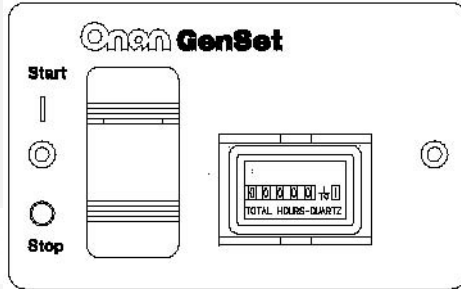

FIGURE 27. REMOTE SWITCH / HOUR METER
- Remote start/stop switch with status indicator light and hour meter (Figure 27).